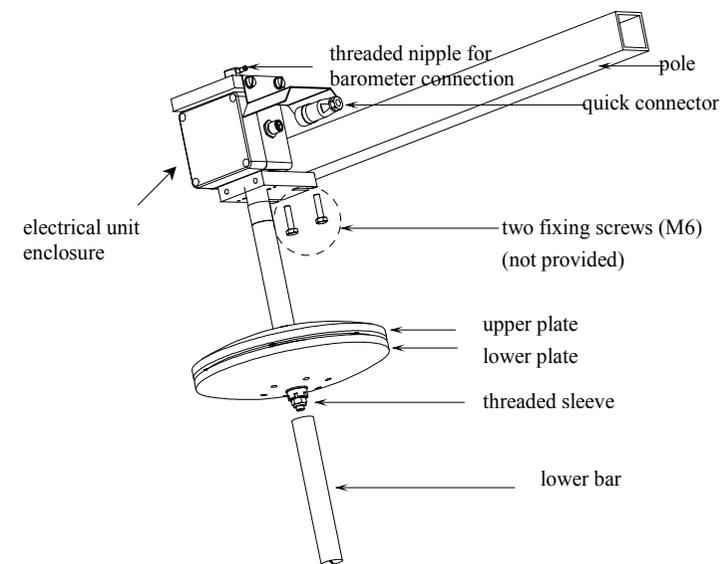

Figure 1. Installation of SPH20.
- Attach the SPH20 to the pole by using two fixing screws (M6) as indicated in Figure 1.
Power supply wiring of the SPH20 is done via the quick connector packed separately. Wire and connect the supply voltage **according to the installation instructions included in the quick connector package**. Connection is presented below. After wiring, plug in the quick connector (see Figure 1).
1. Detach the threaded nipple and the gasket (see Figure 1).
Connect the barometer to the threaded nipple (Figure 1) by using a plastic tube with an inner diameter of 4 mm.